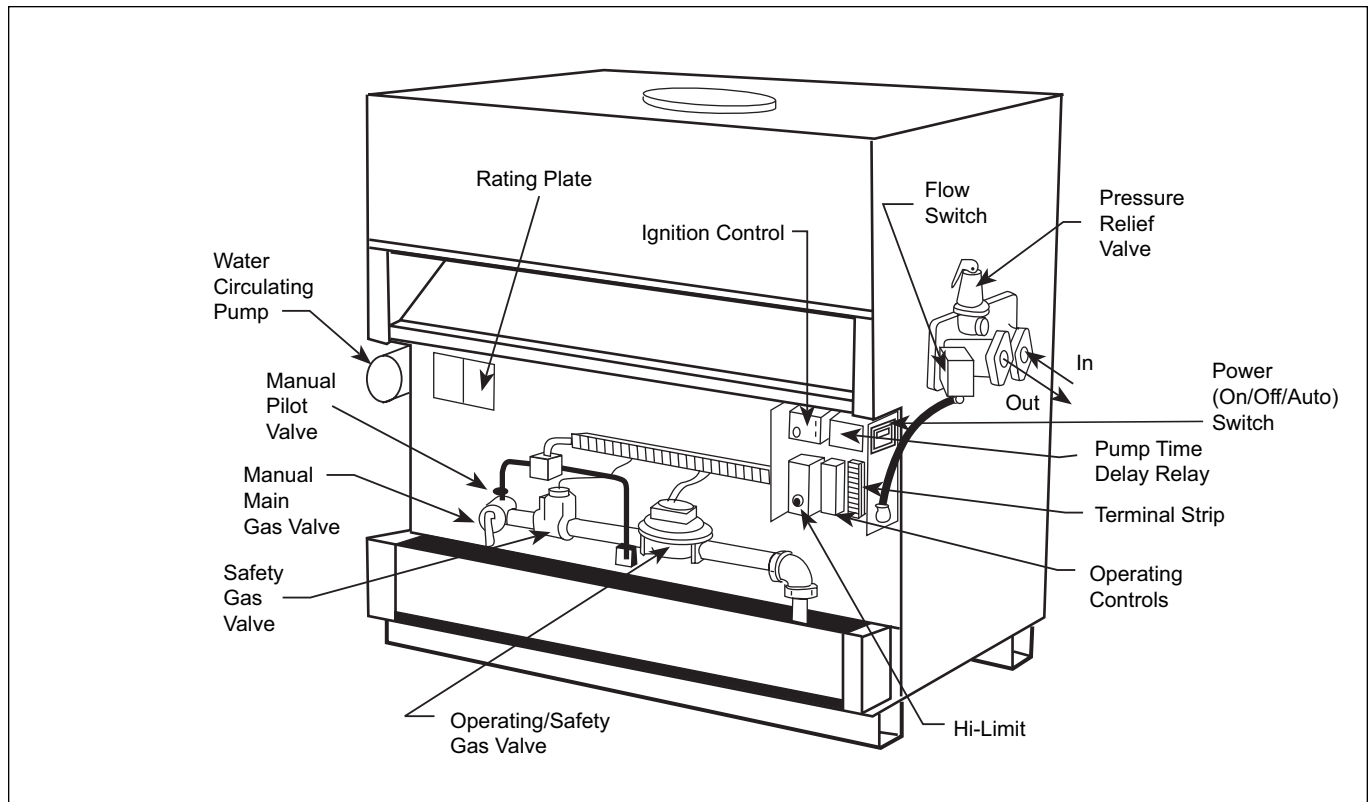

Figure 11 - Control Locations
(See Figures 11 and 12)
7. An adjustable pump time delay relay is mounted in the control panel (see Figure 11). This relay keeps the pump running after the burners shut off. The delay should be set to 10 minutes.